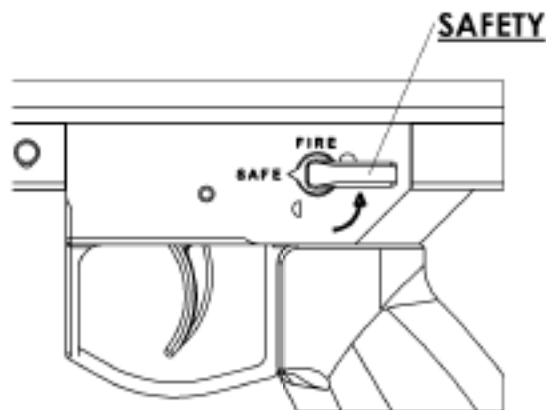

Figure 3. Safety lever to "SAFE".
1. Rotate the safety lever to the "SAFE" (lever horizontal) position. (Figure 3.)